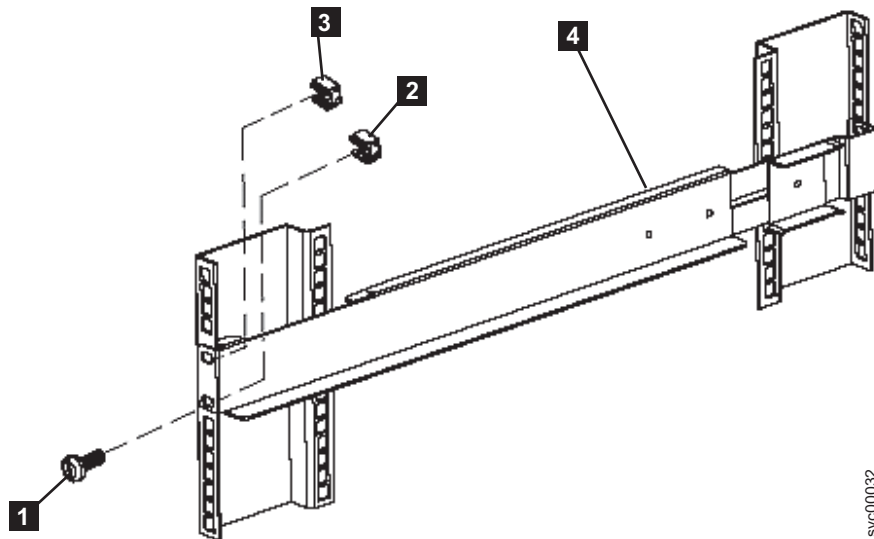

Figure 193. Removing the front rail on the 2145 UPS-1U
3. Remove the clip nut from the top hole of the rail (**3** in Figure 193).